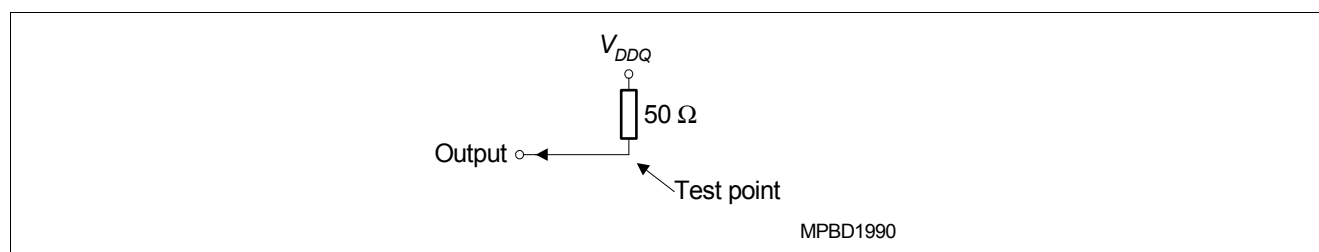

Figure 52 Pull-up slew rate test load
- 1) Pull-up slew rate is characterized under the test conditions as shown in Figure 52.
- 1) Pull-up slew rate is characterized under the test conditions as shown in Figure 52